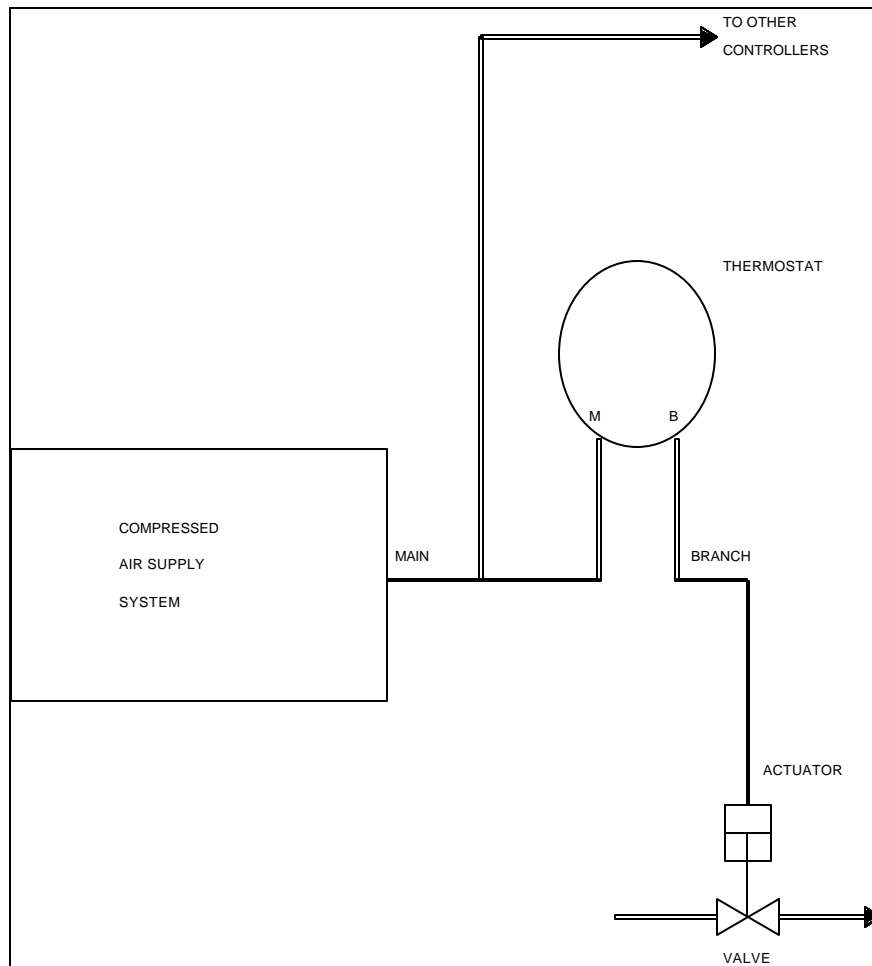

Figure 17-1. Basic compressed air supply to pneumatic control system
a. Components. The next stage in control is the pressure regulator or regulators. At this point one or more operating pressures are set for the equipment in the area with each operating pressure having its own dedicated line. From this line(s) various pieces of equipment can operate. The simplest would be pressure gauges that measure the process relative to atmosphere or another set pressure. Next would be control switches that would activate either electrical circuits or pneumatic circuits based on pressure set point or set points. For example, the reset state could be set at a different set point from the initiation set point. Then there are thermostats, a control switch that operates based on the process temperature or in another case the outside temperatures to which the process is exposed. See figure 17-1 for an example of this case. At the next level are pressure transmitters and controllers. This class of service acts as a pneumatic amplifier to send pressure changes over greater distances and/or to generate enough energy to operate a valve or piston. There are many variations to these devices to allow for feedback proportional and derivative control. For maintenance review, site process drawings, data sheets, and manufacturers' information should be used.